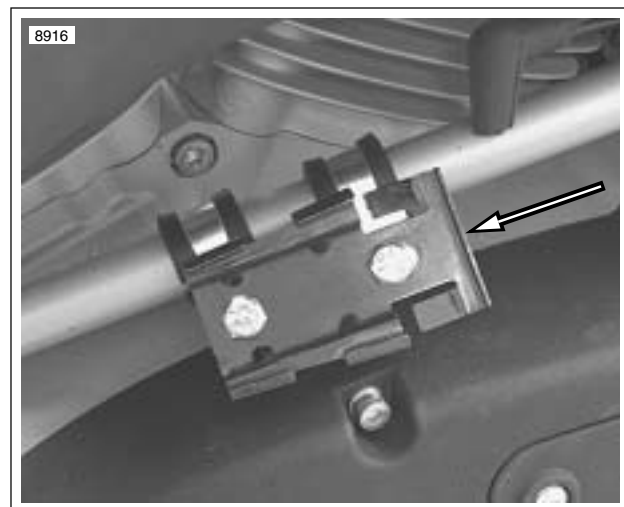

Figure 4-114. Canister Mounting Bracket
1. See Figure 4-114. Slide canister into position on canister mounting plate and push towards front of vehicle.